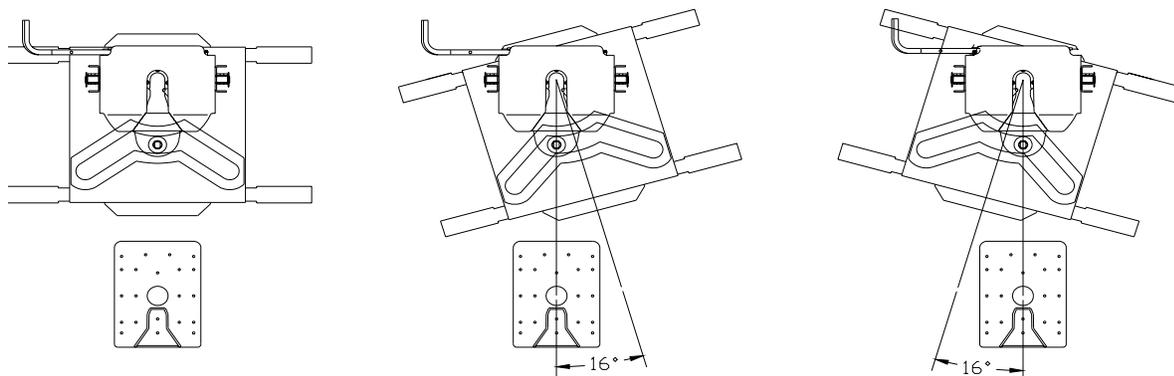

Figure 6
1. Align your truck with the center of the trailer. The truck should be close to parallel to the centerline of the trailer. Hitching can only be accomplished when the tow vehicle and the trailer are aligned within 16° of each other (**Figure 6**).
1. Once you have the trailer located and are ready to unhitch, **(unhitching can only be accomplished when the truck and trailer are aligned within 16 degrees of each other see Fig. 6 page 6)**, block the trailer wheels so it will not roll back or forward. Back into the blocked trailer slightly and set the parking brake while you are still in gear. This action will relieve pressure on the lock mechanism before attempting to release the latch mechanism.